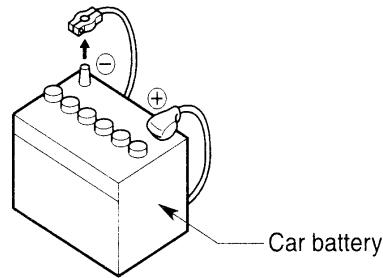

Figure 1
3. Be sure to disconnect the battery “terminal” before starting. This is to prevent short circuits during installation. (Figure 1)